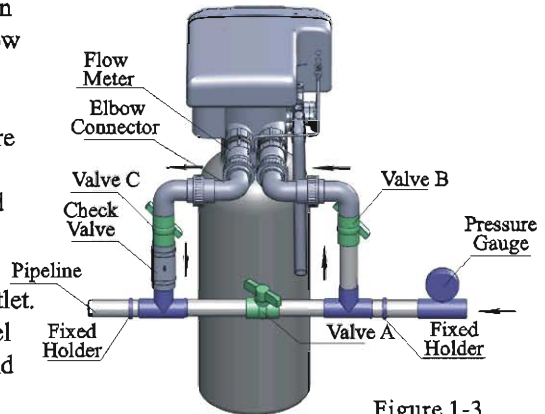

Figure 1-3
- As Figure 1-3 shows, install a pressure gauge in the water inlet.